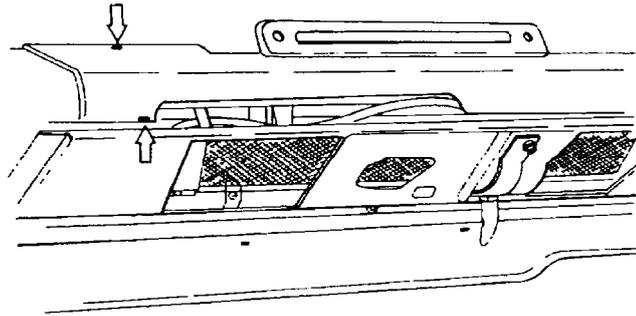

Figure 312 Removing the Upper Crash Pad
- h.** Remove the screws securing the upper crash pad to the firewall and the fascia support panel (Figure 312). Remove the support panel.